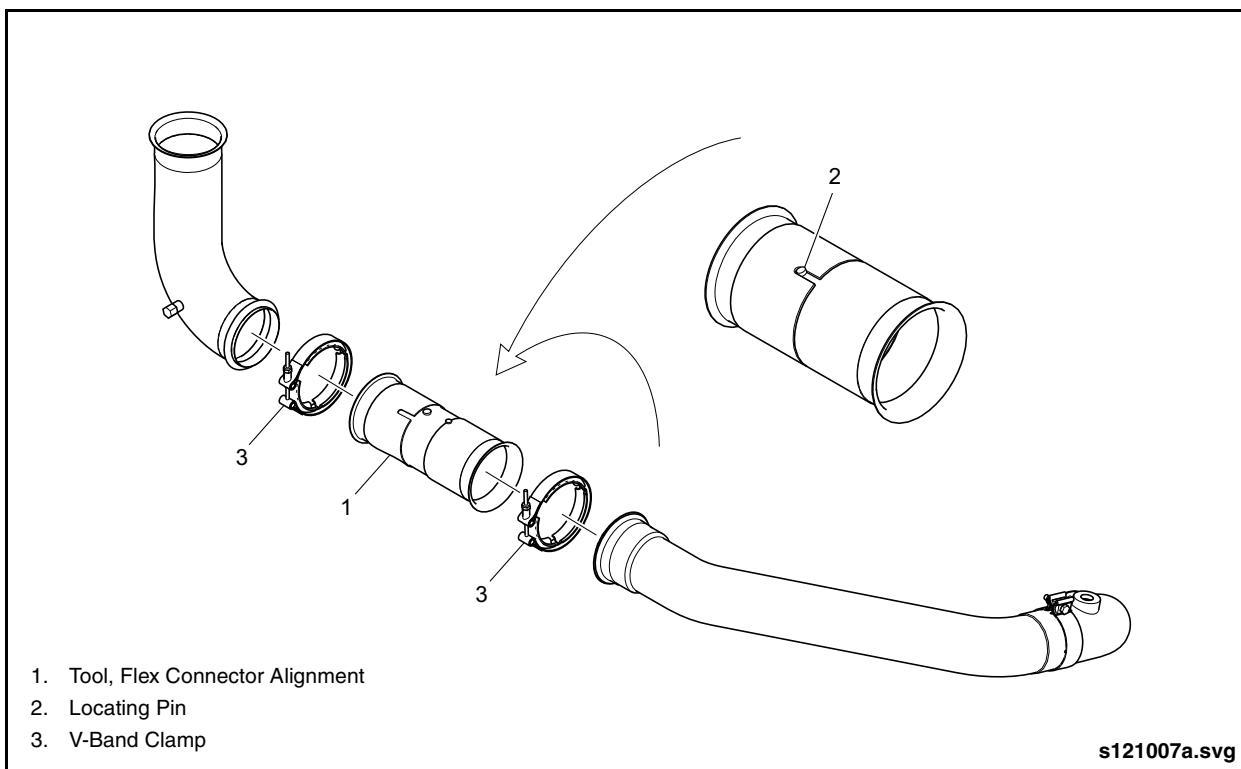

Fig. 4-20: Flex Connector Alignment Tool
5. Rotate both ends of the alignment tool until it locks into the expanded position (locating pin should be out of the slot and in contact with edge of the slotted end of the tool). Make sure that the flanged end of the exhaust tubes are properly seated to the tool. See "Fig. 4-20: Flex Connector Alignment Tool" on page 35.